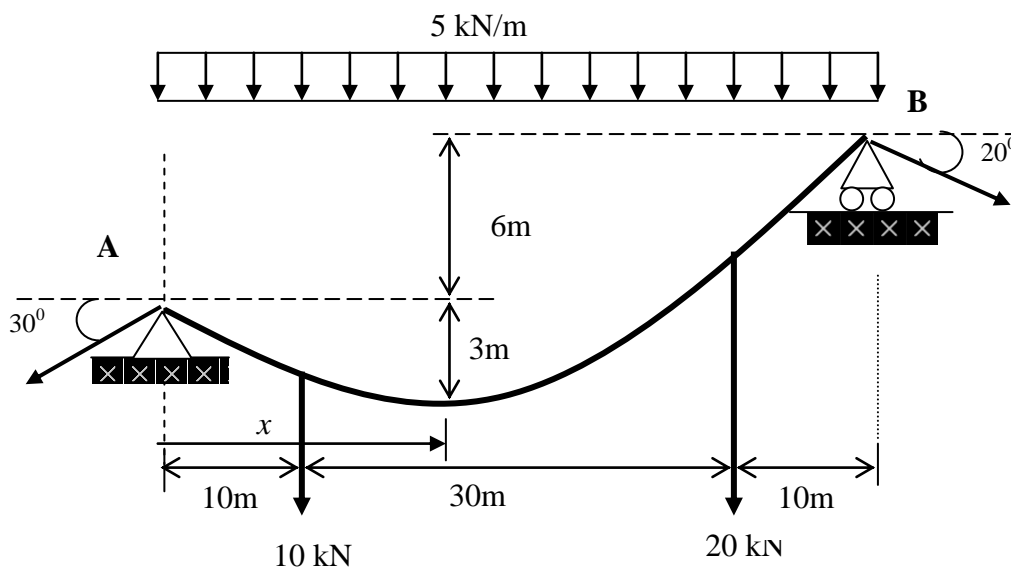

Figure 4
3. The cable system shown in Figure 4 carries a uniformly distributed load of 5kN/m between the supports and two point loads of 10kN and 20kN at 10m away from support A and B respectively. The horizontal distance between supports is 50m and the vertical distance between the lowest point and the left hand support is 3m. The right hand support is 6m higher than the left support.